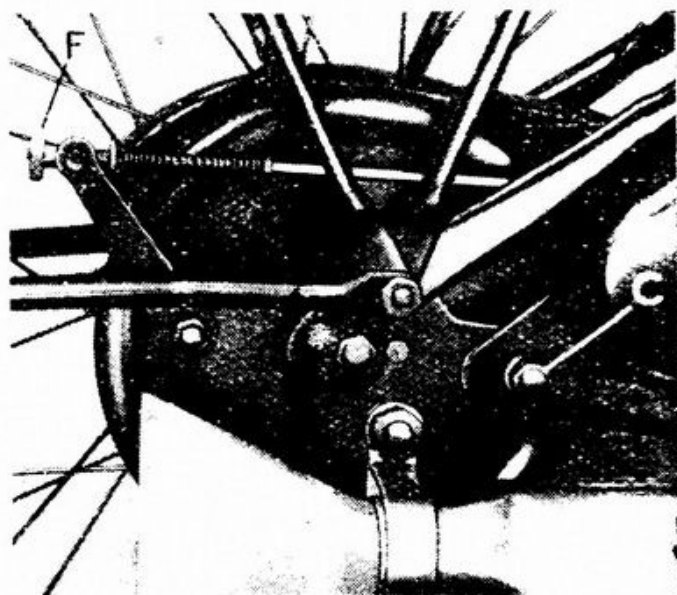
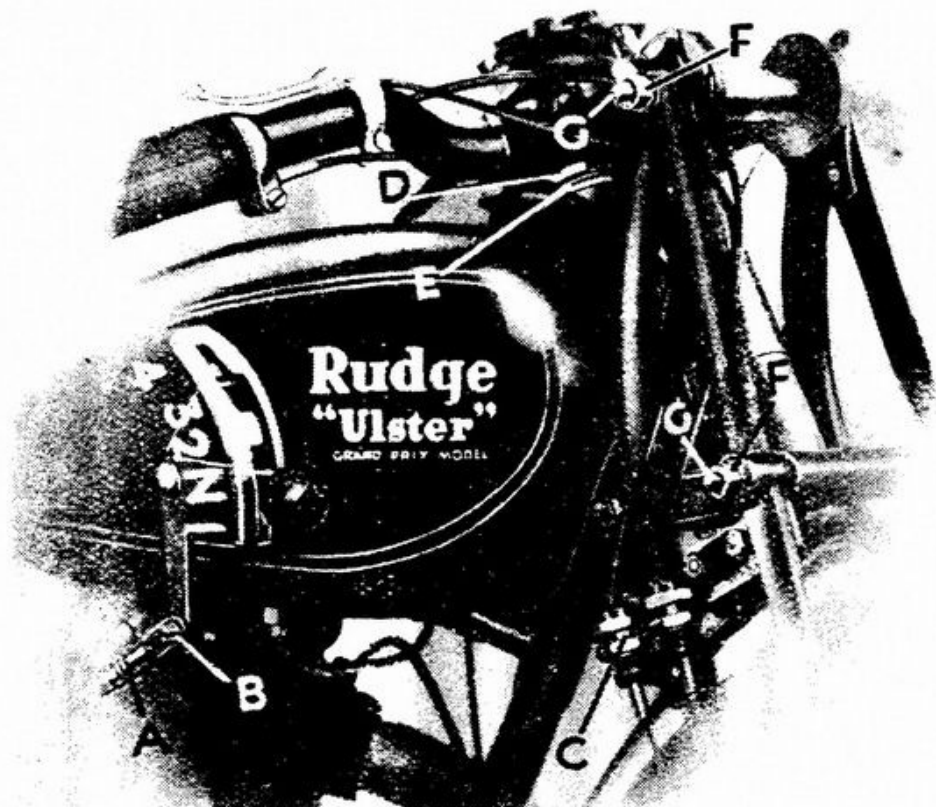

FIG. 16. REAR BRAKE ADJUSTMENT.
FIG. 17. THE GEAR LEVER AND STEERING HEAD.
If the box has been moved to adjust the front chain, it is essential to check and, if necessary, correct the adjustment of the gear control rod. To adjust the control engage either second or third gears and take out the pin (B, Fig. 17) by removing its split pin and washer; now hold the gear lever exactly central between the shoulders of the gate. The gears themselves will be held in their correct position by the locating mechanism inside the box. Now slip the yoke end of the control rod over the end of the gear lever and see whether the pin can be inserted; if not, slacken the locknut (A) and screw the yoke end either up or down the rod until the pin will slip into place. Tighten the locknut (A) and replace the washer and split pin securing the pin.
In the case of the 500 c.c. rear wheel, to remove, disengage the brake control by means of the quick release device (F, Fig. 16), undo the knock-out spindle nut (left side) and remove the knock-out spindle
(F, Fig. 16) and the hexagon headed adjustable stop and locknut (C, Fig. 17) so that the brakes start to operate after the pedal has been depressed about $\frac{1}{2}$ in. Both brakes should come on together, which may be tested by depressing the brake pedal slowly and spinning each wheel in turn. If anything, the front brake should begin to operate very slightly before the back, as this has a steadying effect when pulling up on a greasy road. See that all exposed cables, joints and threads of the brake operating mechanism are well lubricated.
Play in the spring forks or steering head of any machine will soon upset its steadiness at speed, so from time to time the machine should be jacked up on its central stand with a box under the crankcase and the forks and steering head tested for play by shaking the front wheel backwards and forwards. To adjust the steering head slacken the steering damper right off, slacken locknut (D, Fig. 17) and tighten nut (E), using the C spanner in the tool kit. For correct adjustment the steering head should be absolutely free, yet without trace of play. Before finally testing, tighten locknut (D), since this may affect the adjustment. Turn the bar from side to side. If there is a tendency to remain in a